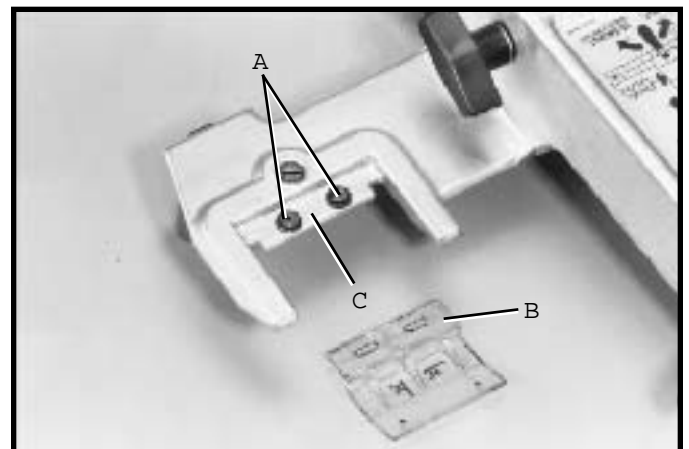

Fig. 63
1. Remove two screws and flat washers (A) Fig. 63, and assemble the cursor (B) to the Unifence body (C). Replace the two screws and flat washers (A).